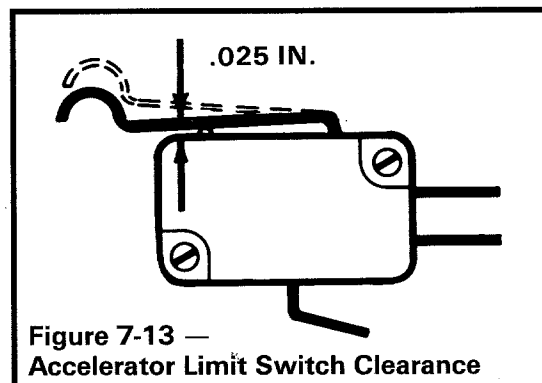

Figure 7-13 — Accelerator Limit Switch Clearance
6. Have a helper rotate the bell crank until both limit switches are actuated but not bottomed on the switch housing (leaving approximately a .025 in. gap) (Figure 7-13).
9. For correct adjustment there should be at least a .025 in. gap between the limit switch housing and limit switch lever when accelerator pedal is not depressed (**Figure 7-13**).